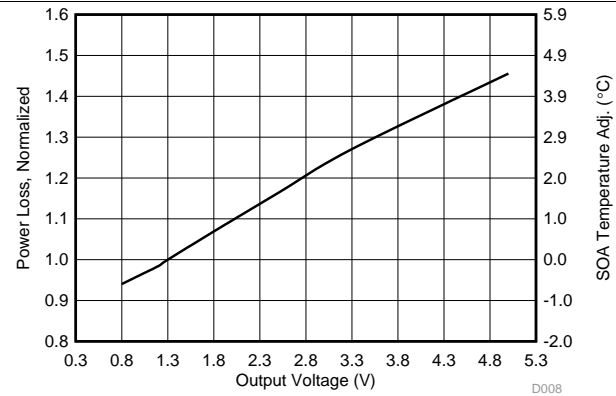

图 6. Normalized Power Loss vs Output Voltage
- Normalized power loss for output voltage  $\approx 1.07$  (图 6)
- SOA adjustment for output voltage  $\approx 0.68^\circ\text{C}$  (图 6)